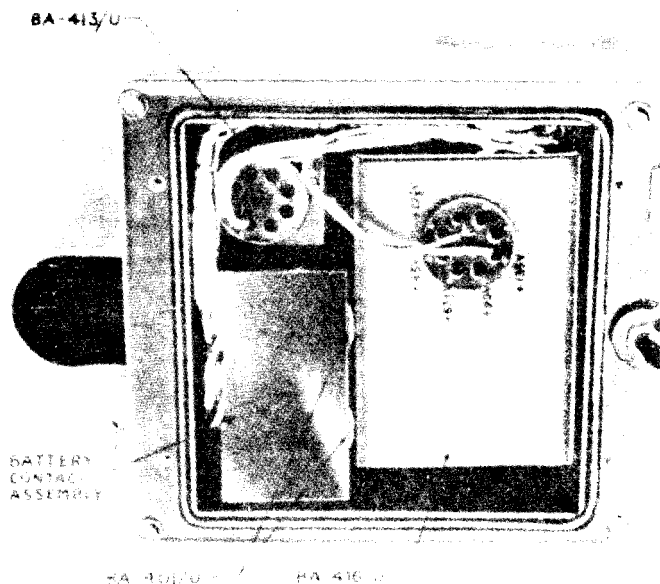

Figure 3-2
Step 4. Place the batteries in the battery compartment as shown on diagram inside battery compartment or in Fig. 3-2.